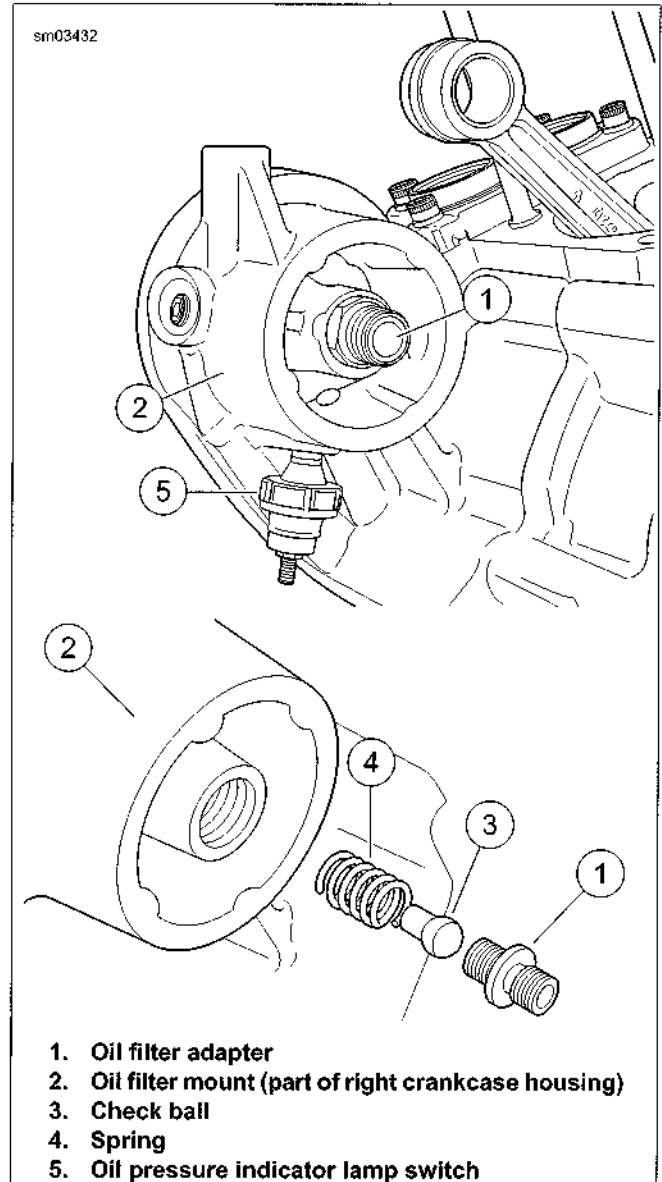

Figure 3-130. Oil Filter Mount, Typical (XL model shown)
2. See Figure 3-130. Remove oil filter adapter (1) from oil filter mount (2).
3. Remove check ball (3) and spring (4).
1. See Figure 3-130. Place spring (4) and check ball (3) into threaded hole at center of mount (2). Push oil filter adapter against ball to compress spring.